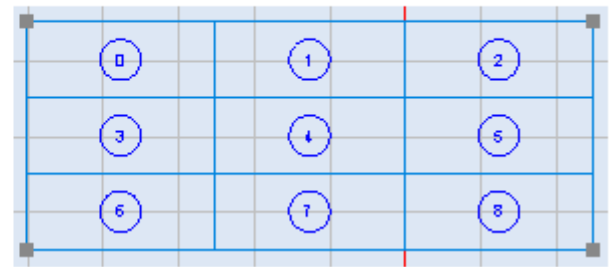

FIGURE 533: EXAMPLES OF THE VERTICAL AND HORIZONTAL TILING ORIENTATION
- **Vertical** – specifies that the tiling will be done vertically as shown in the example on the left side of Figure 533 (below). (Note that the cells in the example are in vertical sequences.)
- **Horizontal** – specifies that the tiling will be done horizontally as shown in the example on the right side of Figure 533 (below). (Note that the cells in the example are in horizontal sequences.)